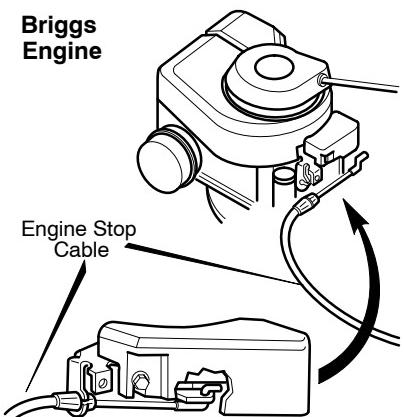

Figure 5
3. Attach the **engine stop cable** to the engine. Models with Briggs & Stratton engines are shown in Figure 5. Models with Tecumseh engines are shown in Figure 6.